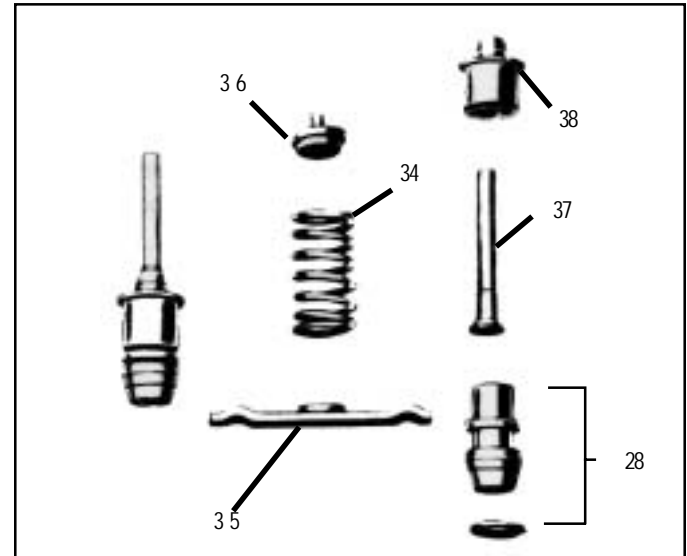

FIGURE 12- UNLOADER MECHANISM
A new unloader kit should be used when rebuilding. (Figure 12). (Piece Number 279615). The unloader pistons in the kit are prelubricated with a special lubricant piece number 239379 and need no additional lubrication. Install the unloader pistons (28) in their bores being careful not to cut the o-rings. Position the unloader plungers (37) in their guides (38) and slip them in and over the tops of the pistons. Install the unloader spring seat (36) in the cylinder block inlet cavity;